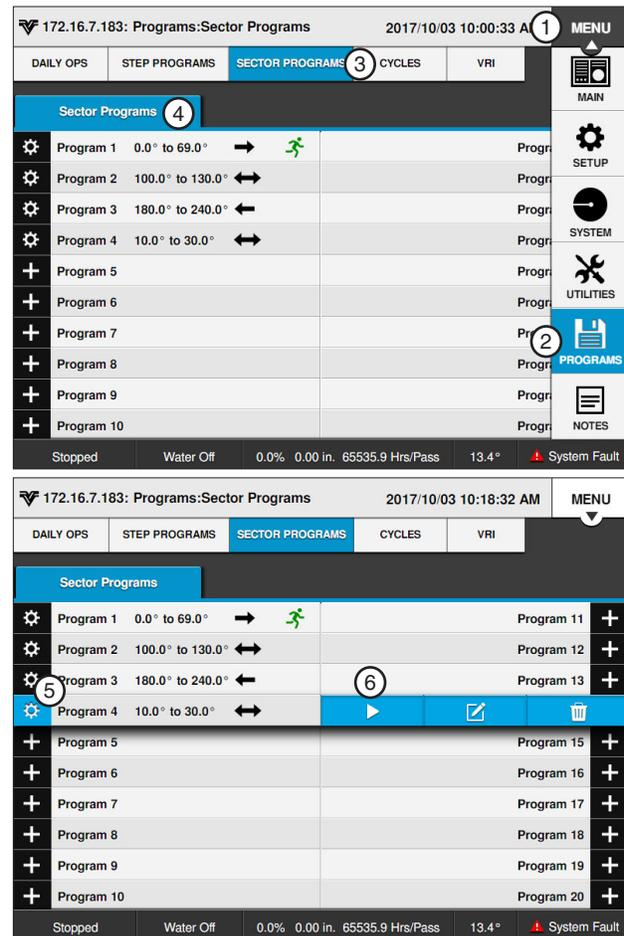

Figure 140-1 1. Menu
1. Push **Menu**, **Programs** and **Sector Programs** to view the Sector Programs screen. Refer to Figure 140-1.
3. Push the **Run** button to run the selected program. Refer to Figure 140-1.